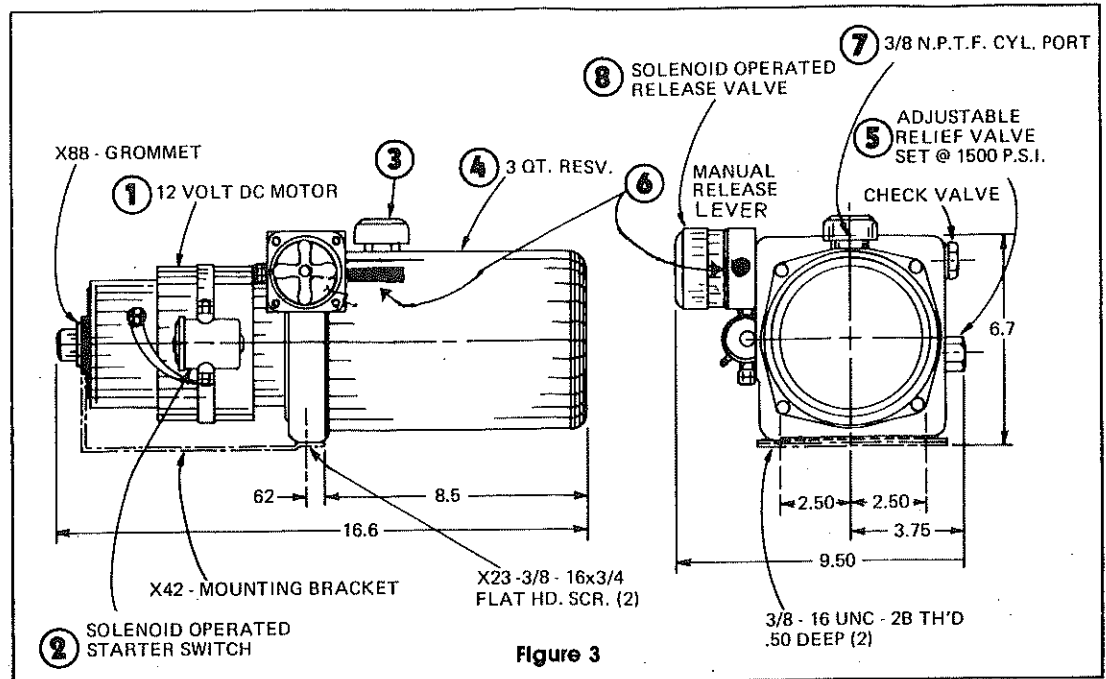

Figure 3
The Electric/Hydraulic Power Lifting Unit is located at the "A" Frame of the chassis and consists of the following elements as shown in Figure 3. (1) electric motor; (2) solenoid start switch; (3) filler breather port; (4) reservoir; (5) relief valve; (6) manual release lever; (7) 3/8 NPTF pressure port; (8) electric release valve. This complete unit is factory adjusted and preset for smooth and efficient operation. It should require no further adjustment. However, for your information, here are some facts about the unit which may prove useful in the future.
Hydraulic Pump—The hydraulic pump is close-coupled to the electric motor as shown in Figure 3. It is capable of producing pressure up 3,000 psi; however, the raising mechanism of your HI-LO trailer requires much less for efficient operation. This unit includes a by-pass valve that operates when the hydraulic lifting cylinder has reached its maximum thrust. This by-pass is a built-in safety device to prevent damage. A harmless "squeal" will be detected when it is activated to indicate the top section is fully raised into position.
- B. Manual release valve open: Be sure manual release lever is in neutral and not in partially opened position. (See Figure 3.)